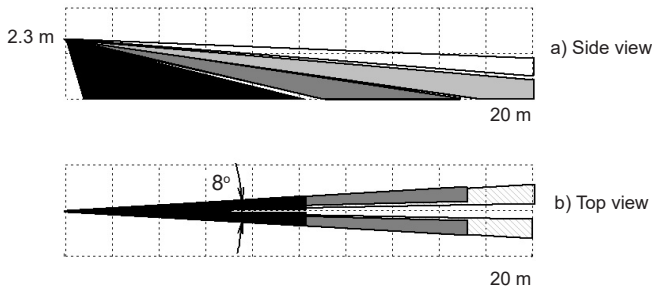
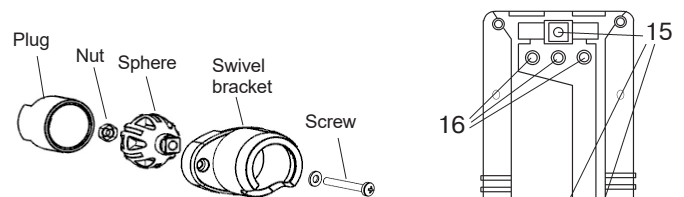

Figure 1 – Detection Zone Pattern
Figure 3 – Swivel Bracket Components
Detection zone pattern is shown in Figure 1.
7.1 The Detector (Figure 1) consists of base (1) with PCB (3) and cover (5). Swivel bracket (see Figure 3) is included in scope of delivery. The cover is fixed to the base by four screws (6) with a sealing gasket along the base perimeter. The PCB is fixed on the base by means of latch (10), spring latch (11) and screw (9).
- assemble the swivel bracket in accordance with Figure 3;
- open one of 3 holes (15) for the Detector fastening to swivel bracket.